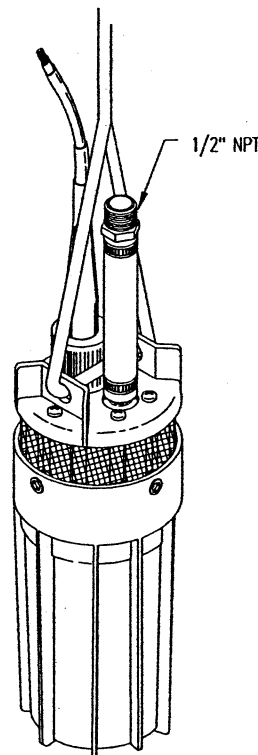

FIGURE 7
3) Install the 6 in. hose and fitting (1/2" NPT X 1/2" BARB) (Fig. 7, page 5).
4) Hook-up Safety Line (Sling) (Fig. 7).